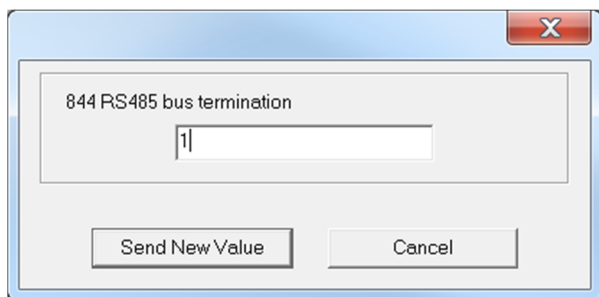

Figure 10: Configure the LevelMaster to terminate RS485 bus
6. When the edit box displays (Figure 10), if the value is 0, change the value to one (1). The value of 1 configures the unit as the last sensor on the RS485 bus.